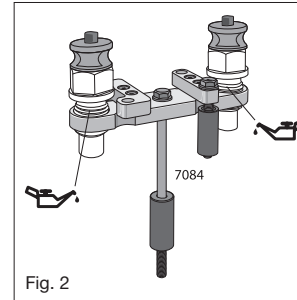

Fig. 2
2. Refer to Figure 2: lightly oil the two pull-out threads on the tool.